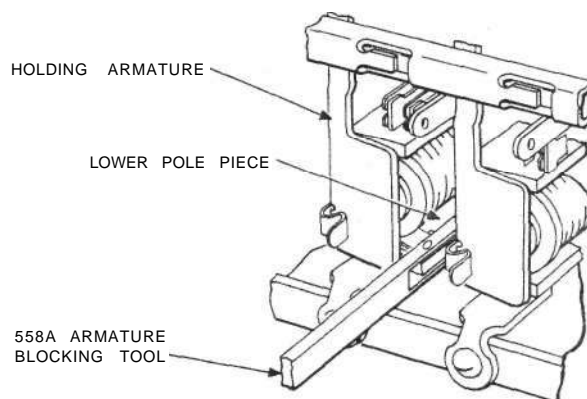

Fig. 30—Blocking 300- through 308-, 314-, 315-, and 318-Type Switch Holding Magnets - Nonoperated
3.26 300-, 301-, 302-, 303-, 304-, 305-, 306-, 307-, 308-, 314-, 315-, and 318-Type Switches: Fig. 30—Block the holding magnet of switches nonoperated by applying the 558A armature blocking tool to the lower pole piece so the blocking finger of the tool is between the end of the pole piece and the holding armature.